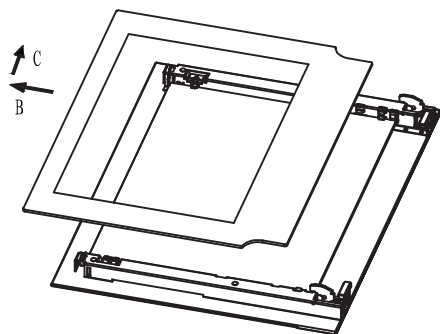

Fig.2
2. Take out inner glass slowly, following the direction of the arrow (B) then (C) (Fig.2)